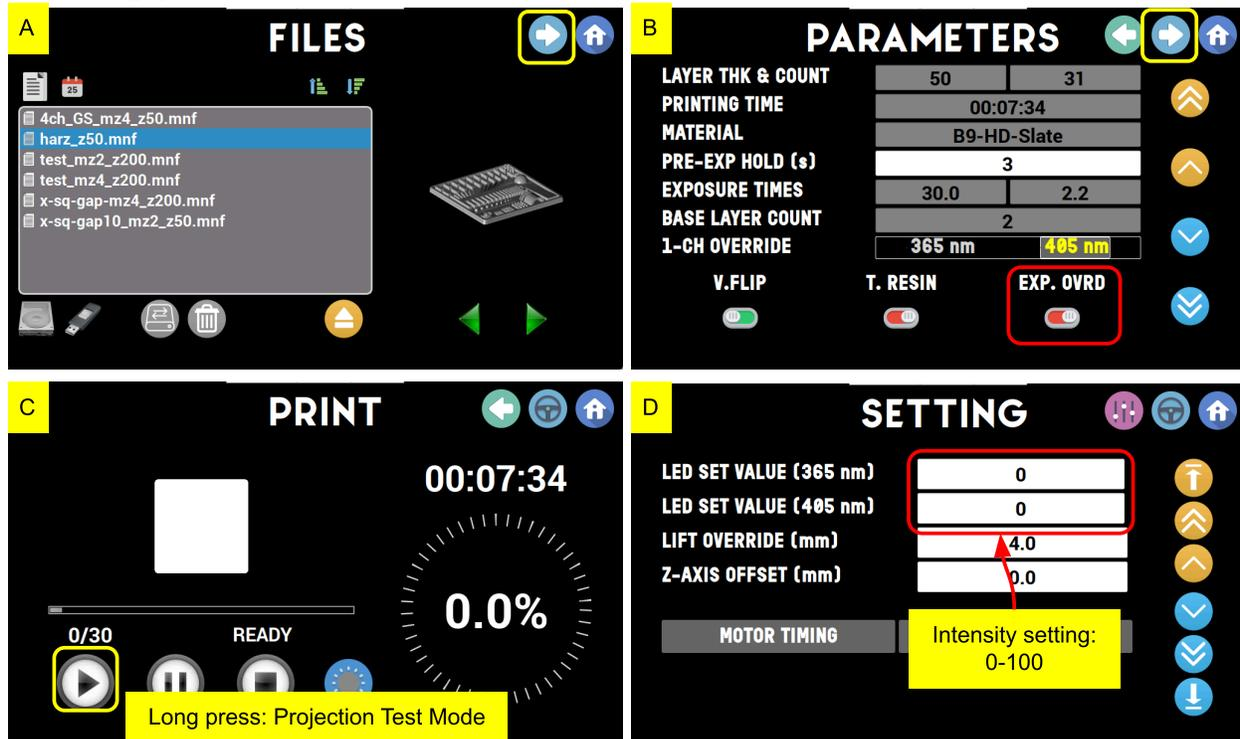

Fig. 8. Select a printing file and change exposure parameters
- **Fig. 8** shows a brief process of file selection and parameter changes.
- Select one of them (**Fig. 8-A**) and press the next button (yellow box).
- On the parameters page, you can change the exposure parameters by turning on “EXP. OV” button (**Fig. 8-B**). **This option is only available for 1-channel printing files. If the printing job uses multiple LEDs, this option won't be visible.**
- Press the next arrow button, then you will be directed to the **PRINT** page (**Fig. 8-C**).
- The LED intensity can be changed on the **SETTINGS** page. The first parameter is for 365 nm and 405 nm (**Fig. 8-D**).